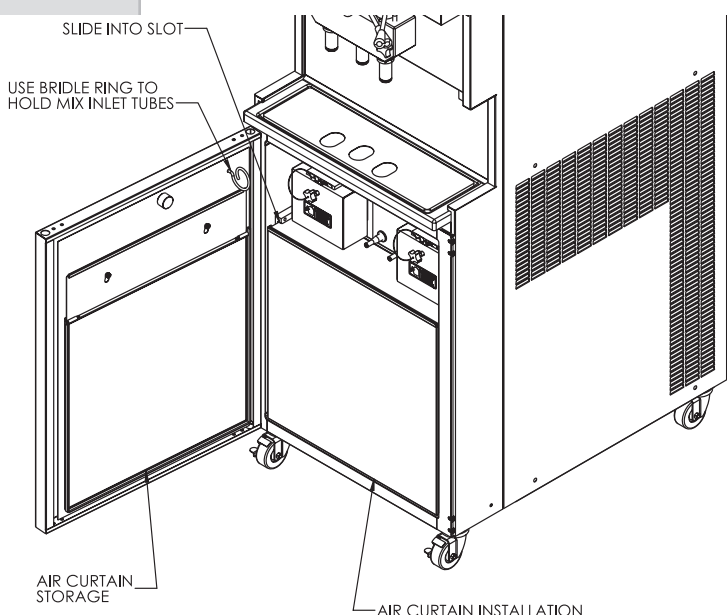

Figure 10-1
3. **Sanitizing with mix stored in drawers.** Insure stainless air curtain is installed in front of bag storage area to keep it cooling (figure 10-1).